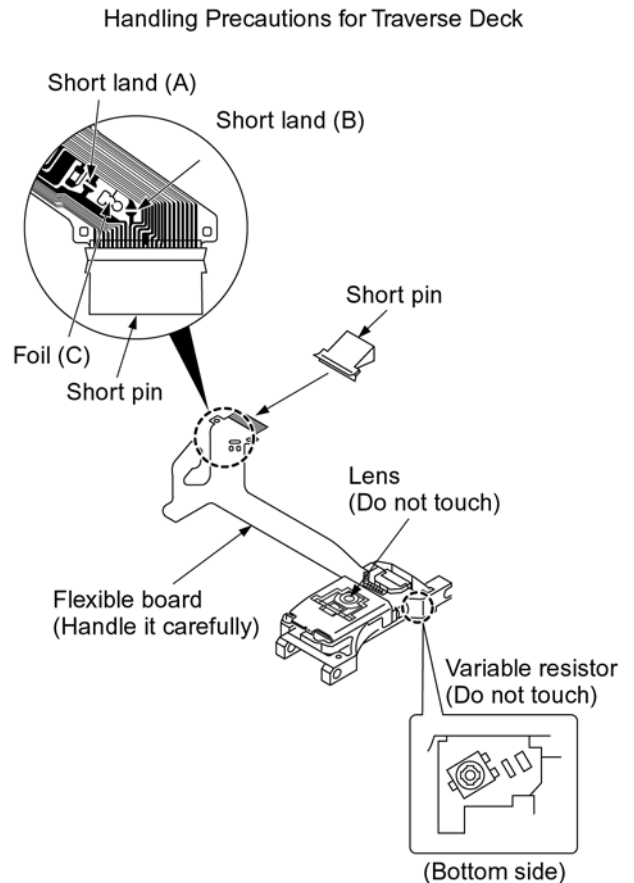

Fig.1
2. To protect the laser diode against electrostatic breakdown, be sure that the short land A and B of the flexible board (FFC board) should be short-circuit by solder before pulling out the FFC. Then inserting a short pin or similar object into the tip of the flexible board. (Refer to **Fig.1**)
4. Do not turn the pre-set variable resistor (for adjustment of the laser power); it has been adjusted at the factory. (as shown in **Fig.1**)
2. Cut the foil (C). (Refer to **Fig.1**) (Take care not to make contact with cutting point each other.)
3. Unsolder the short lands. (Refer to **Fig.1**)